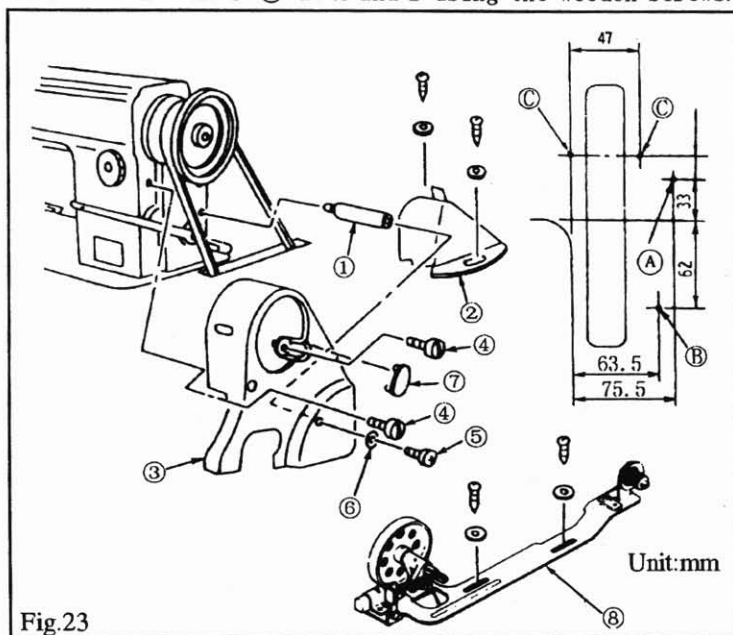
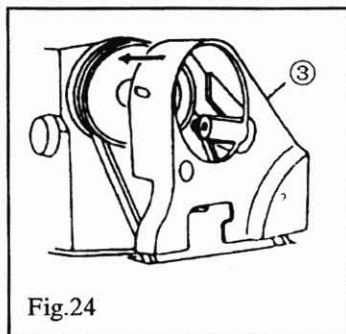

Fig. 23
Fig. 24
- 1) When sewing heavy-weight materials, move thread guide ① to the left in direction A to increase the length of thread pulled out by the thread take-up.
- 2) When sewing light-weight materials, move thread guide ① to the right in direction B to decrease the length of thread pulled out by the thread take-up.
- 3) When the marker line C on the thread guide ① is aligned with the center of the screw, it is standard.
17. INSTALLING THE BELT COVER AND THE BOBBIN WINDER (Fig. 23, Fig. 24, Fig. 25)